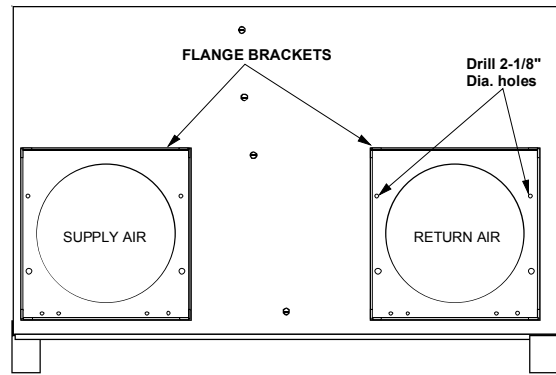

Figure 9 - Flange Bracket Installation
3. Center flange bracket (Figure 9) and unit openings. Attach flange brackets to the unit using the removed screws in Step 1. Retighten screws.
4. Drill two 1/8" diameter holes on the return air side as indicated in Figure 9.